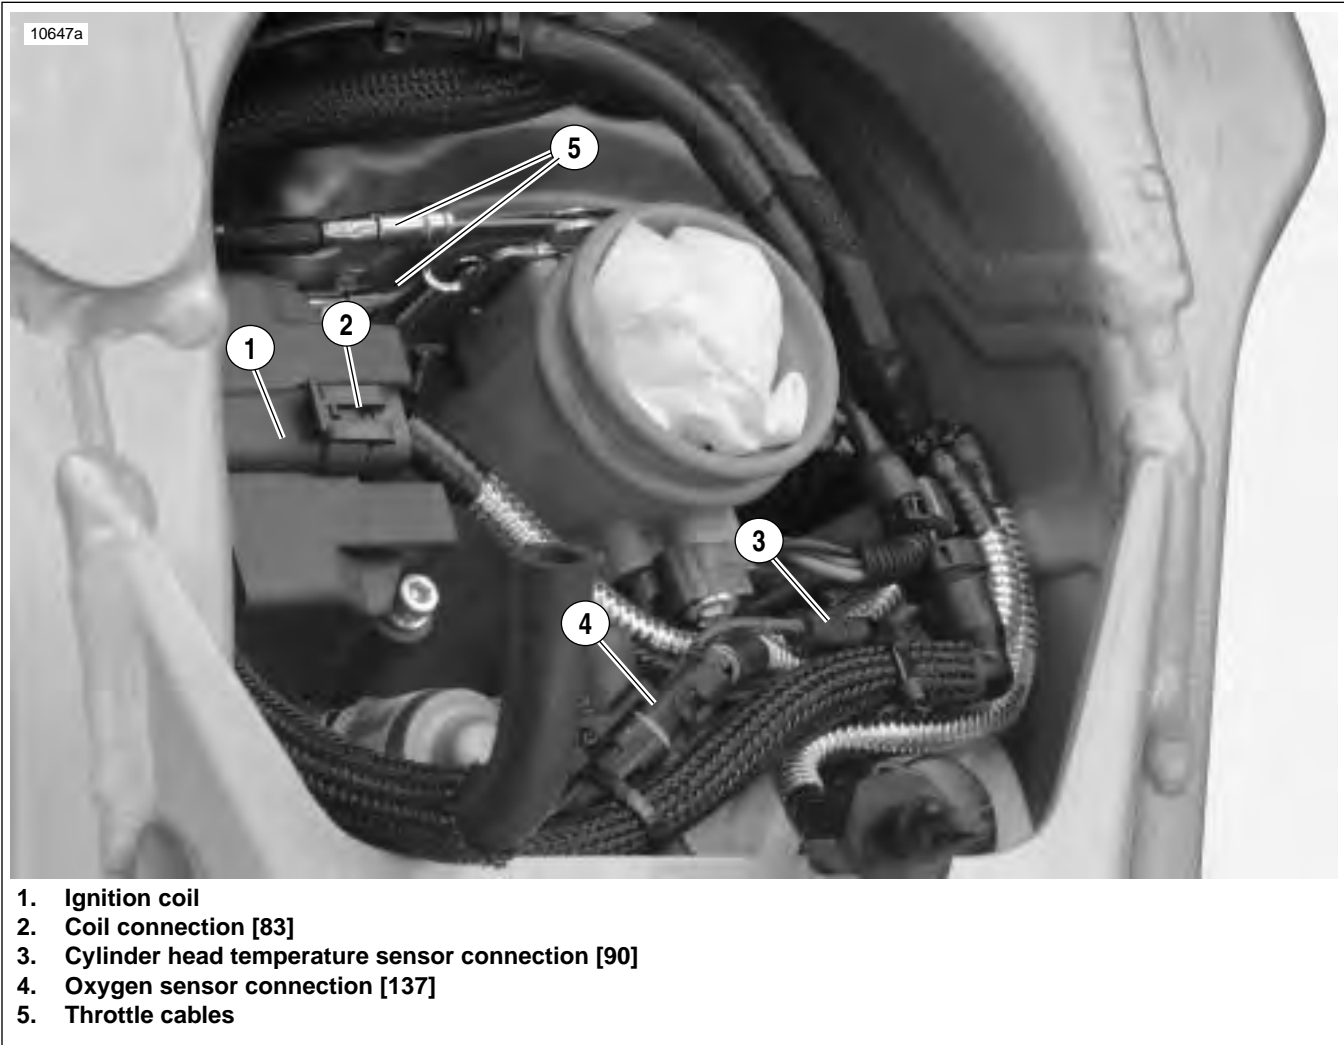

Figure 3-55. Electrical Connections and Throttle Cables (Typical)
36. See Figure 3-55. Connect throttle cables to induction module/throttle body. See 1.15 THROTTLE CABLE AND IDLE SPEED ADJUSTMENT.
38. See Figure 3-55. Install the ignition coil and spark plug wires and connector [83]. Tighten ignition coil fasteners to 120-144 **in-lbs** (13.6-16.3 Nm).